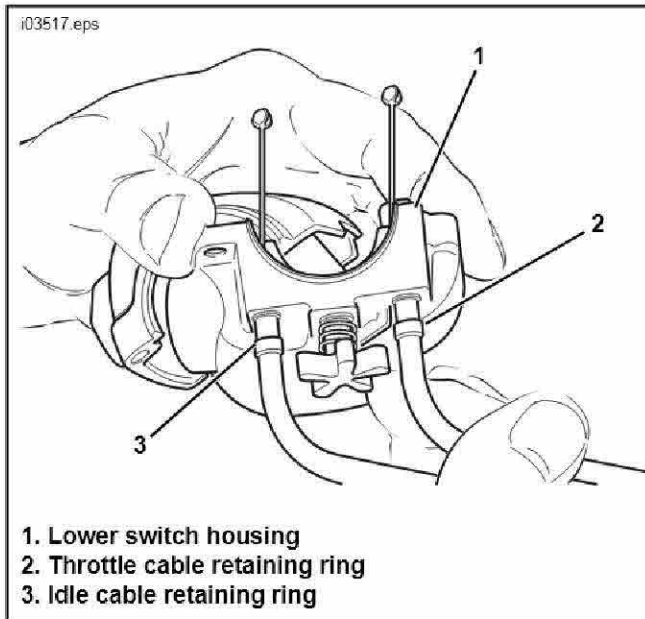

Figure 5. Install Cables to Lower Switch Housing
- See Figure 5. Push the throttle cable housing and retaining ring into the switch housing larger hole, located in front of the tension adjuster screw.